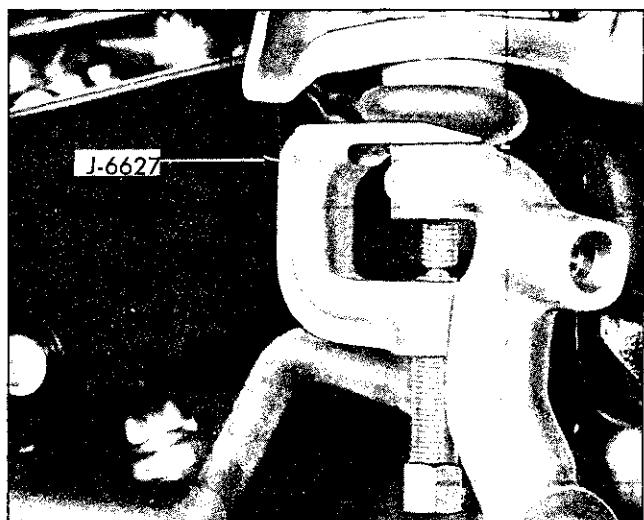

Fig. 3-6 Removing Ball Joint Stud With J 6627
8. Disconnect lower ball stud from steering knuckle with J 6627 (Fig. 3-6).
7. Disconnect lower ball stud from steering knuckle, using tool J 6627 (Fig. 3-6) and position backing plate and steering knuckle out of the way.
4. Remove upper and lower ball studs with J 6627 and remove steering knuckle (Fig. 3-6).
2. Remove upper ball stud from steering knuckle with J 6627 (Fig. 3-6).